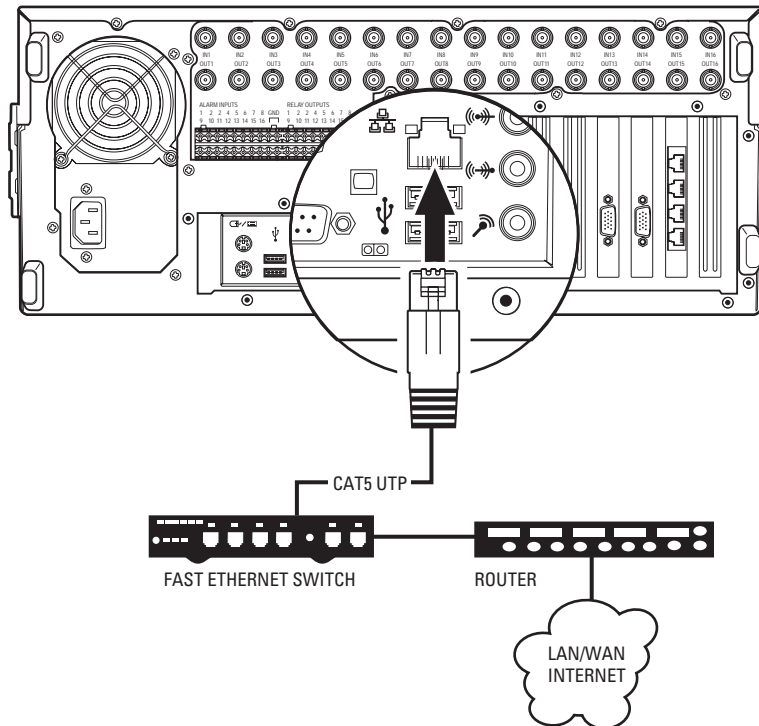

Figure 9. LAN/WAN Cable Connection
1. Connect one end of the UTP cable to the network port on the back panel of the DX8000 as shown in Figure 9.